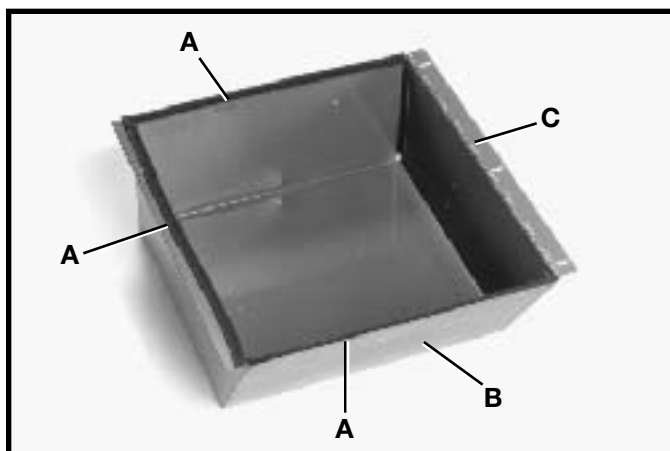

Fig. 40
1. Remove the protective paper from the adhesive gasket material supplied with the machine and apply gasket (A) Fig. 40, to three sides of the back of the motor cover (B), as shown. **NOTE:** Do not apply gasket to the hinged side (C) of the motor cover (B).